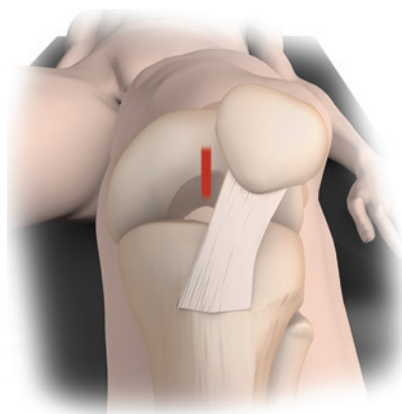

Figure 4
2. Make a 2cm incision in line with the intramedullary canal (Figure 4). Orient the incision so that it is patellar-splitting, medial or lateral parapatellar.